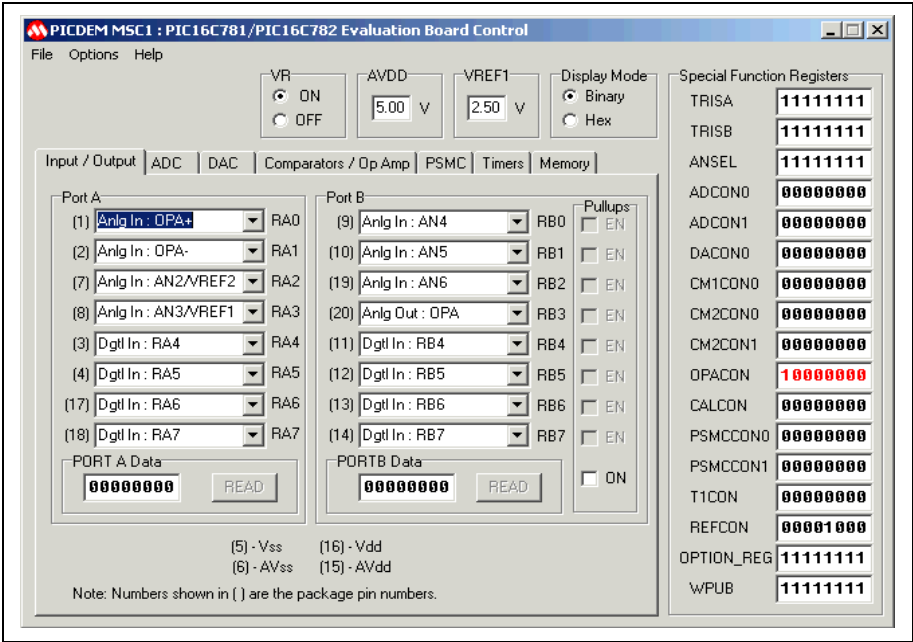

Figure 3.1: Selecting the Input/Output Tab
3. Select the Input/Output tab on the GUI Control Panel, as shown in Figure 3.1.